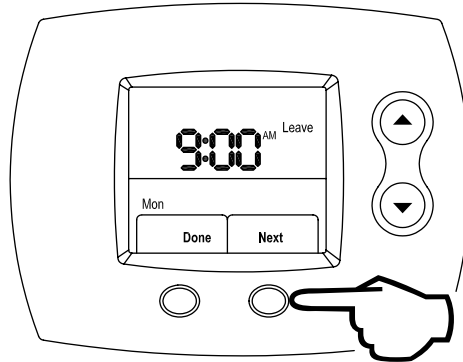

Figure 87
Step 13: Press the **RIGHT** (Next) button to lock in AM / PM. This is shown in Figure 87.